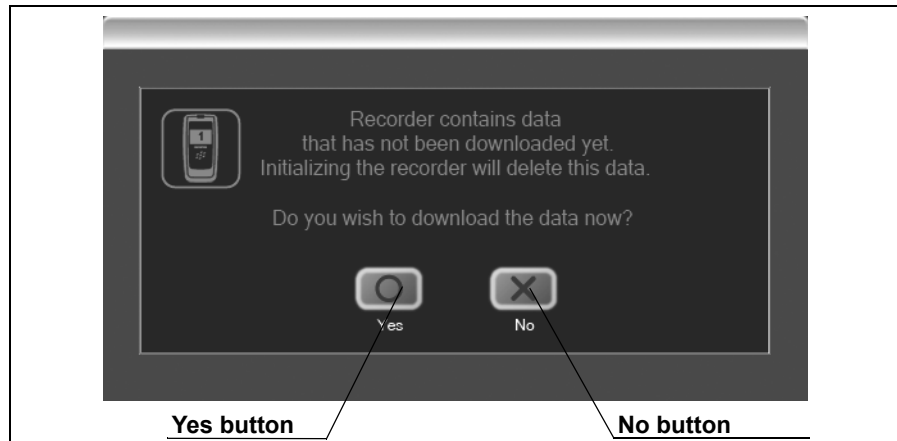

Figure 5.11
- If there are any image data remaining on the recorder unit, a confirmation message will be displayed (see Figure 5.11). If you click the [NO] button, the initial setup screen will be displayed. Click the [YES] button to display the download screen.